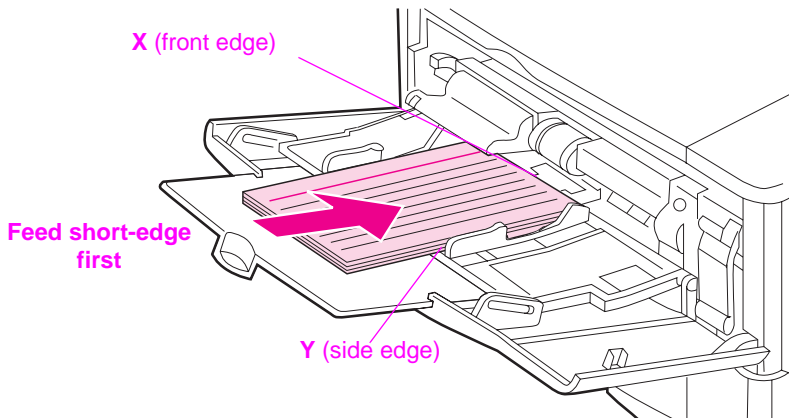

Figure 16 **Printing Custom-Size Paper**
- 3 From the Printing Menu, set the X dimension (the front edge of the paper) as shown in Figure 16. X can be 3 to 8.5 inches (76 to 216 mm).
- 4 Set the Y dimension (the side edge of the paper) as shown in Figure 16. Y can be 5 to 14 inches (127 to 356 mm).